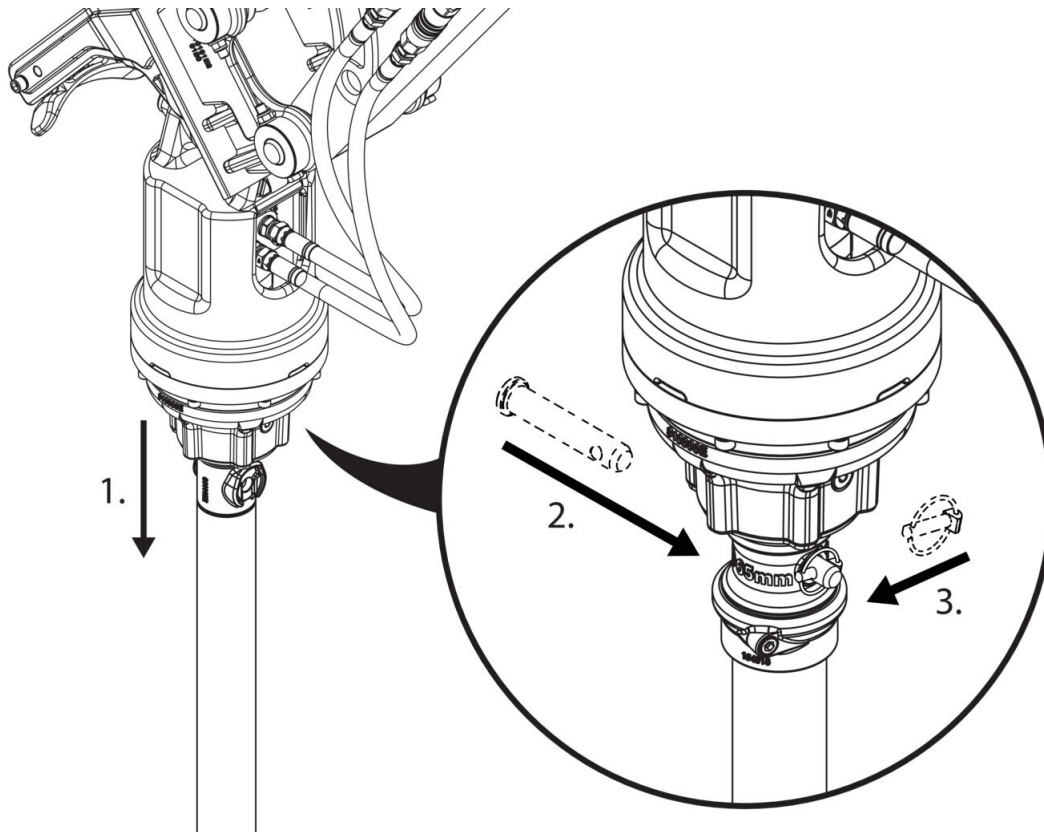

Fig. 39
1. Lower the parent machine boom and auger drive unit 1., engaging male output shaft into female auger extension receptacle. **Fig.39.**
2. Insert locking pin. 2. **Fig. 39.**
3. Capture locking pin with locking clip. 3. **Fig. 39.**